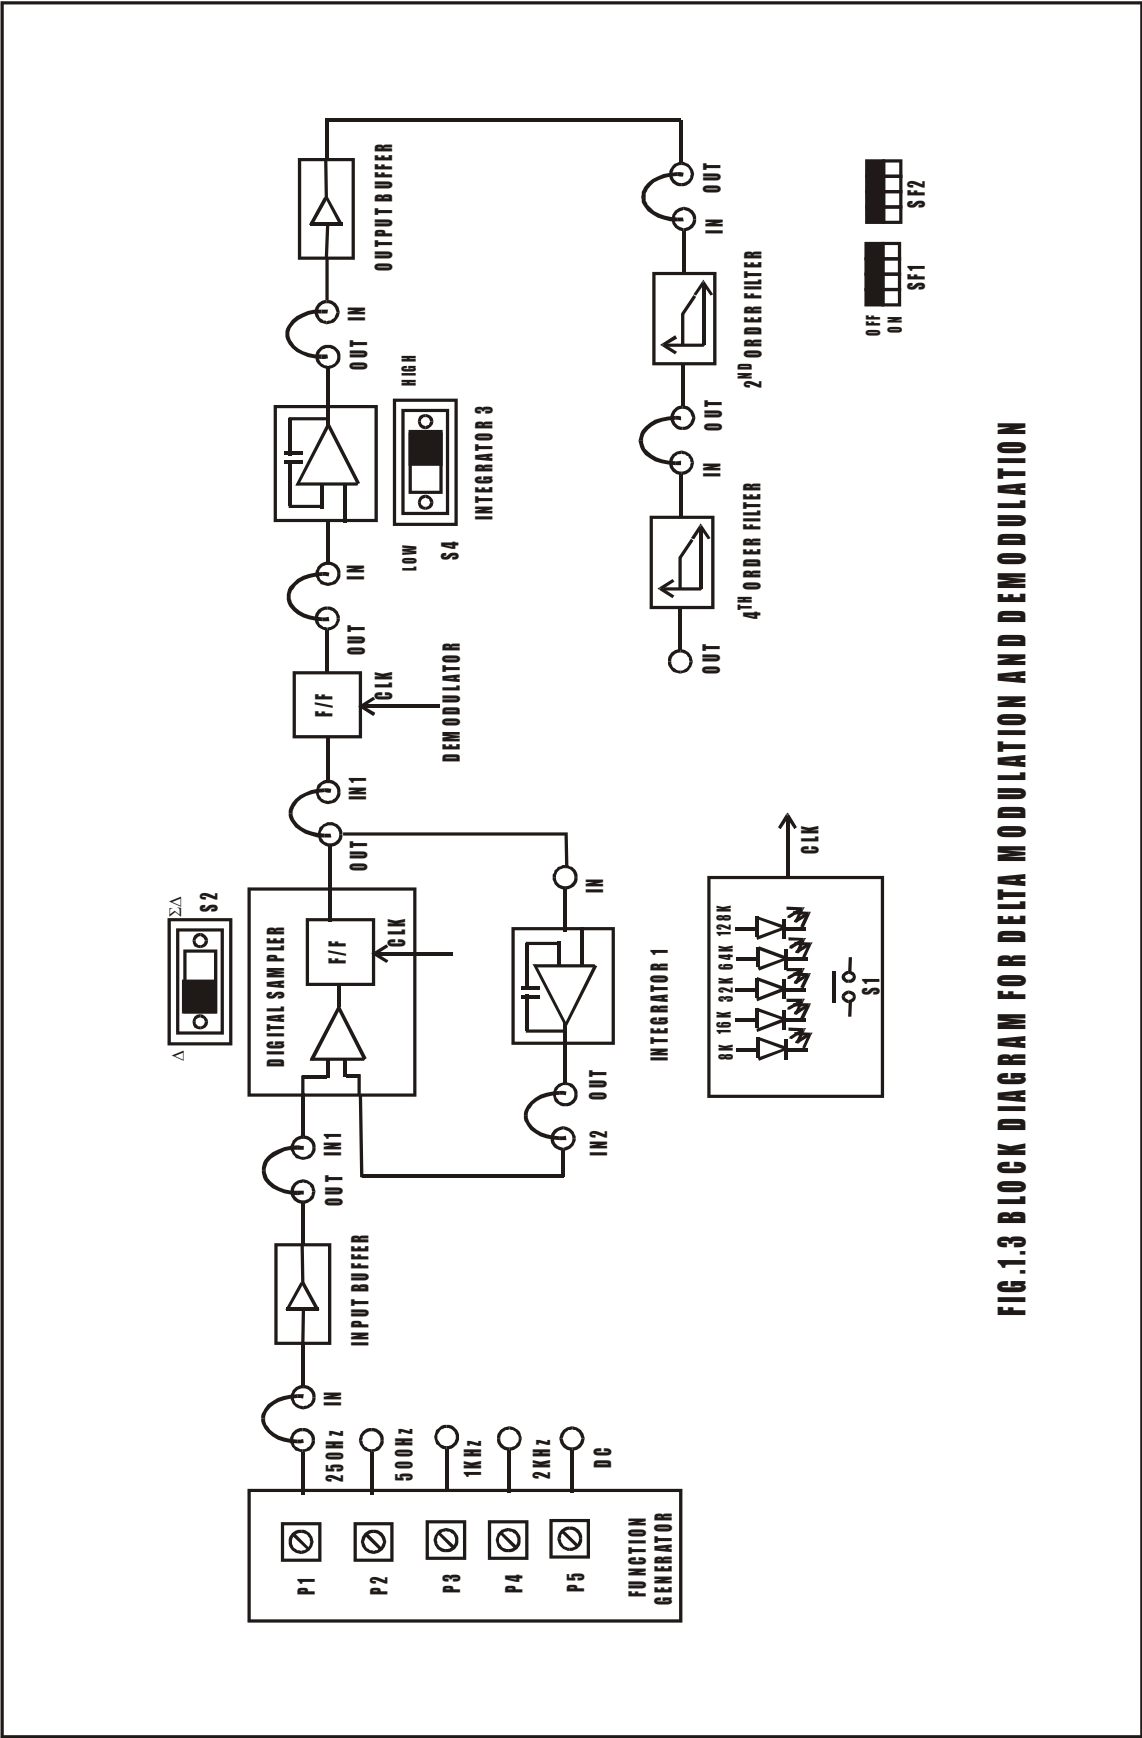

FIG.1.3 BLOCK DIAGRAM FOR DELTA MODULATION AND DEMODULATION
1. Refer to the block diagram (Fig. 1.3) and carry out the following connections.